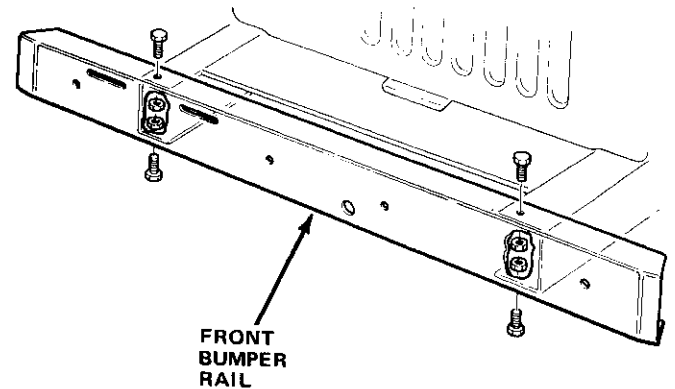

Fig. 3F-15 Front Bumper—CJ Models
(1) Remove nuts and bolts attaching front bumper rail (fig. 3F-15) to frame extensions.
(2) Remove front bumper rail from frame extensions.